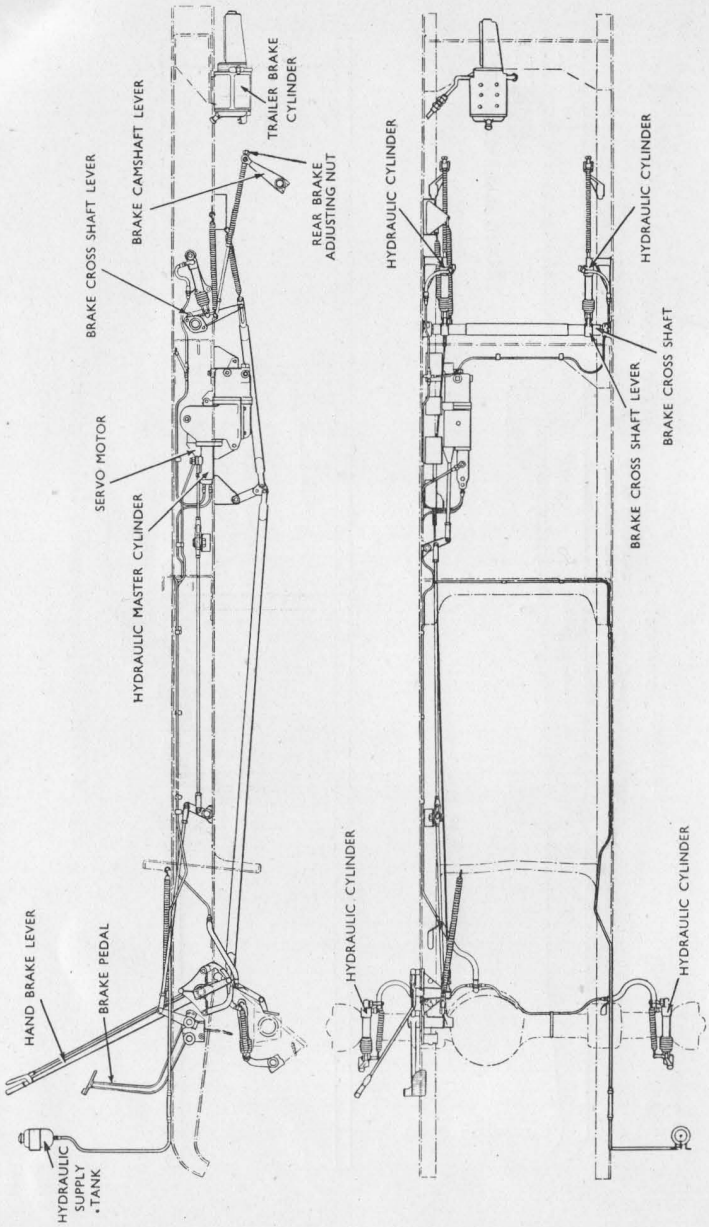

Fig. 35. Arrangement of Brake Gear (Hydraulic and Mechanical Rigging).
(H) HYDRAULIC SUPPLY TANK (ON FRONT DASH) (*see Fig. 35.*)